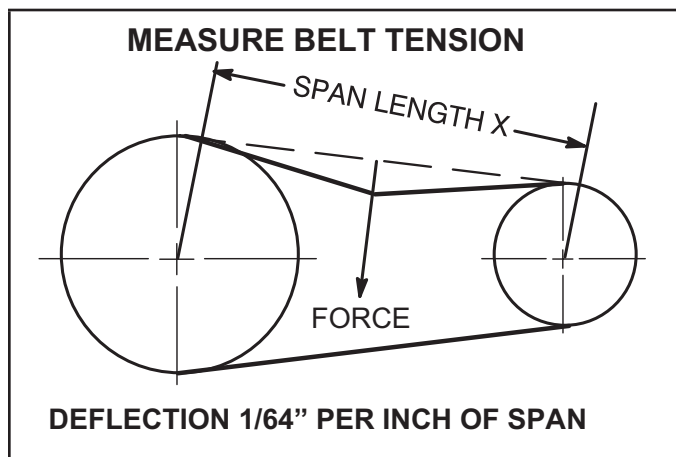

FIGURE 23
- 1 - Measure span length X. See FIGURE 23.
- 2 - Apply perpendicular force to center of span (X) with enough pressure to deflect belt $1/64$ " for every inch of span length.